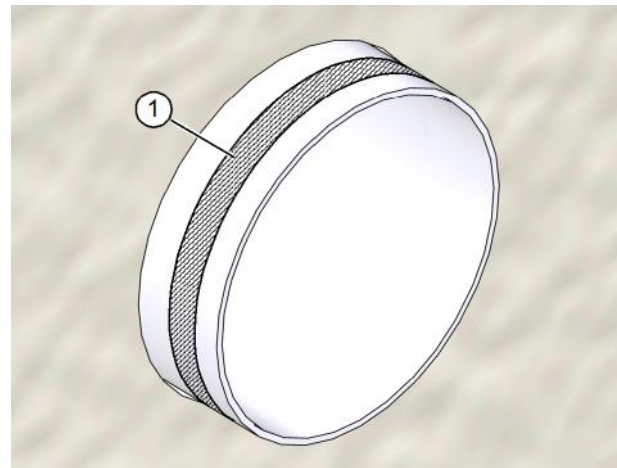

Fig. 13: Applying permanently elastic sealant
- ▶ Apply a thin coating of permanently elastic sealant all around the outside of the ends of the ventilation pipes (item 1 in Fig. 13). This will fix the outer wall terminal in place in the correct position when it is placed on the ventilation pipe.